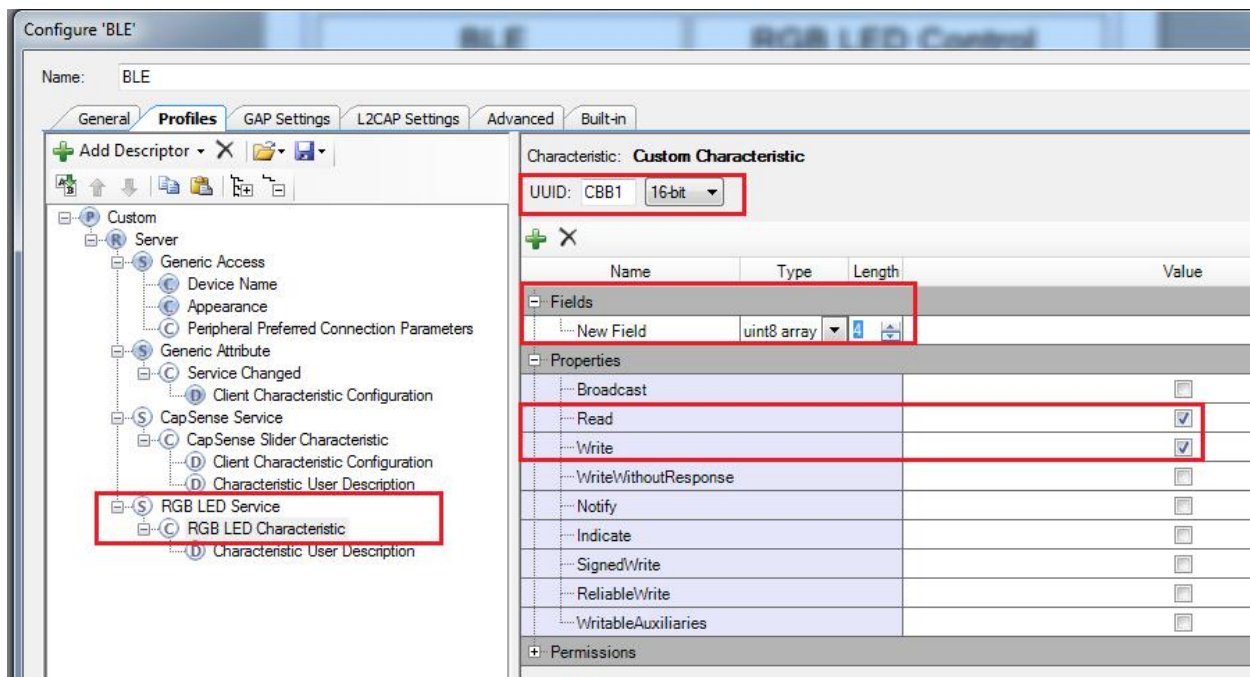

Figure 8: Configuring Characteristic for RGB LED Service
- c. Rename the **Custom Characteristic** in this service to **RGB LED Characteristic**. Set its **UUID (16-bit)** to **0xCBB1**. See Figure 8.
- d. For the **RGB LED Characteristic**, change the Type of **New Field** under the Fields column to **uint8 array** and the **Length** to **4**, see Figure 8. This is because the Characteristic contains 4 bytes – Red LED, Green LED, Blue LED, and overall intensity.
- e. Enable **Read and Write** in the Characteristic properties. See Figure 8.